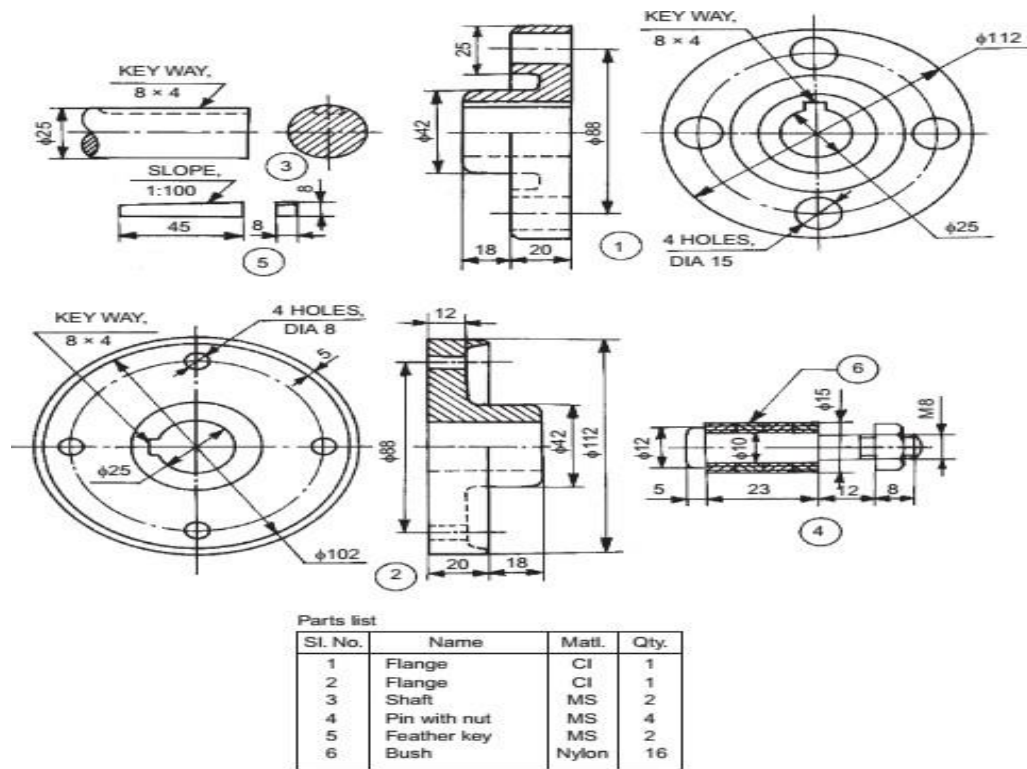

Fig.10
15. Assemble the parts of the bushed pin type flanged coupling shown in Fig. 10 and draw, (i) halfsectional view from the front, with top half in section and (ii) view from the right.